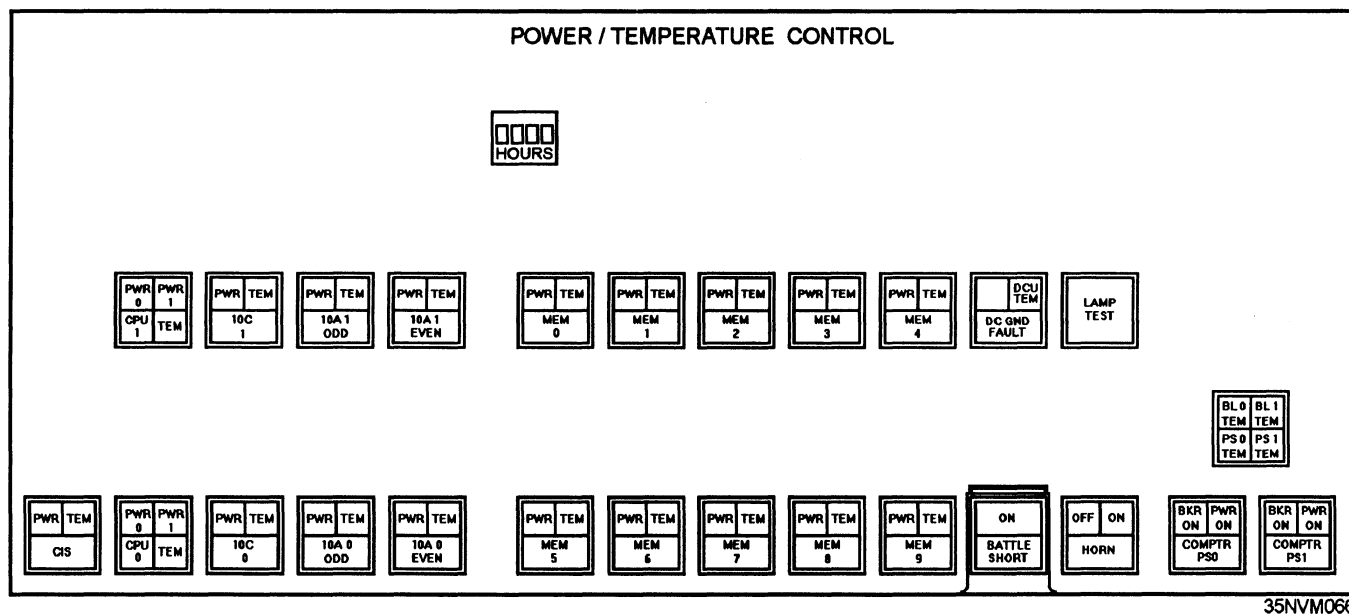

Figure 8-29.—Example of the panel of a power controlling device.
**APPLY POWER.** —Applying power to mainframes also requires more than just turning on the ON/OFF switch. First, you must ensure there is power to the remote panel. Then at the unit itself, usually a circuit breaker must be applied, then blower and logic power. Indicators are usually provided for blower and logic to show there is stable power. Power to a mainframe is critical and you must ensure there is a stable power source. In addition to the circuit breaker protection, interrupts are generated if there are abnormal power fluctuations in which case the computer will shut itself down. Mainframes also use a 4-digit time meter to record the accumulated hours that logic power has been applied, except when there is a time meter for each module unit. Some mainframes have a separate power controlling device devoted entirely for power. It is usually on the front of the unit. Figure 8-29 is an example of a panel of such a device. It also monitors the temperature of the computer set.
Mainframes are also equipped with a **battle short switch** (also indicated on figure 8-29) and an audible alarm to allow the computer to run even when the temperature exceeds the normal allowable operating temperature established by the manufacturer and to indicate excessive temperature in the modules.